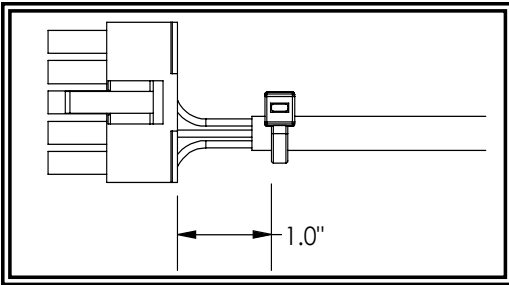

Figure 4
7. Place zip-tie 1.0" from base of the connectors shown in Figure 4. Zip-tie must not slide on cord.